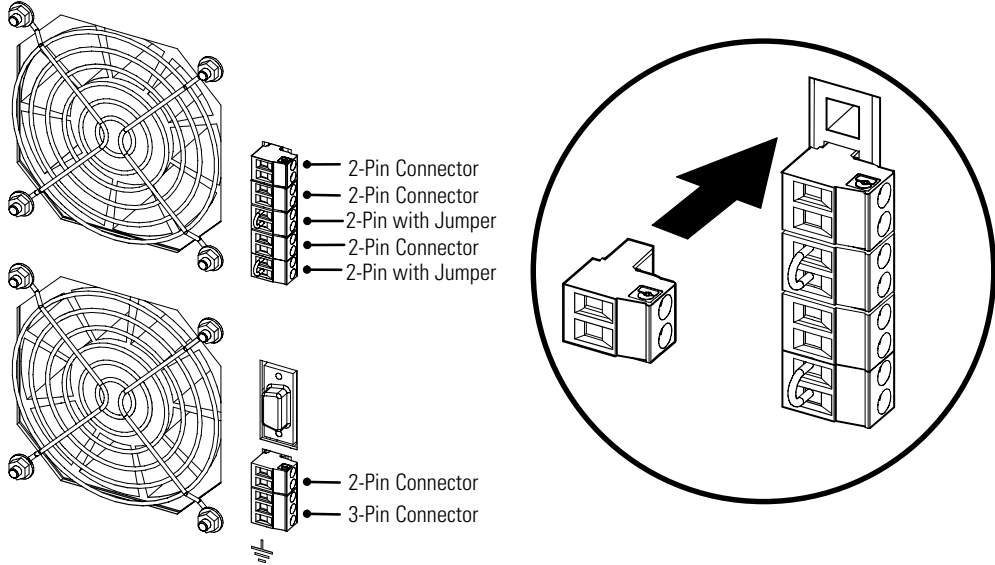

Figure 25. Installing the Communication Terminal Block Connectors
- 18. On the UPS rear panel, plug in the supplied communication terminal block connectors as shown in Figure 25.